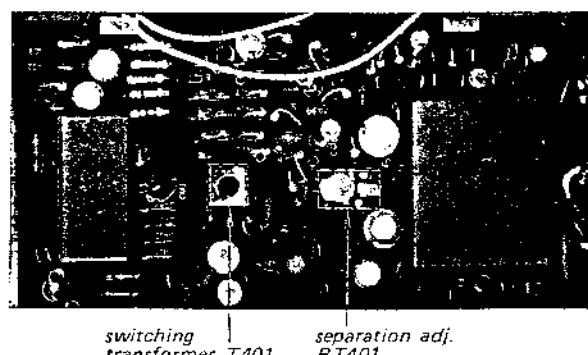

Fig. 3-7. Adjustment parts location
2. Precisely tune the set to the SSG's carrier frequency, then turn the top core of 38 kHz transformer T401 (See Fig. 3-7), to obtain maximum output at the left channel. Note that this adjustment has a close relationship with stereo distortion.
5. The output-level to residual-level ratio represents the separation. Adjust separation adj. control RT401 (See Fig. 3-7) for minimum residual level. Check the right channel for separation. Usually, about an 8 to 9 dB difference in channel separation exists. Re-